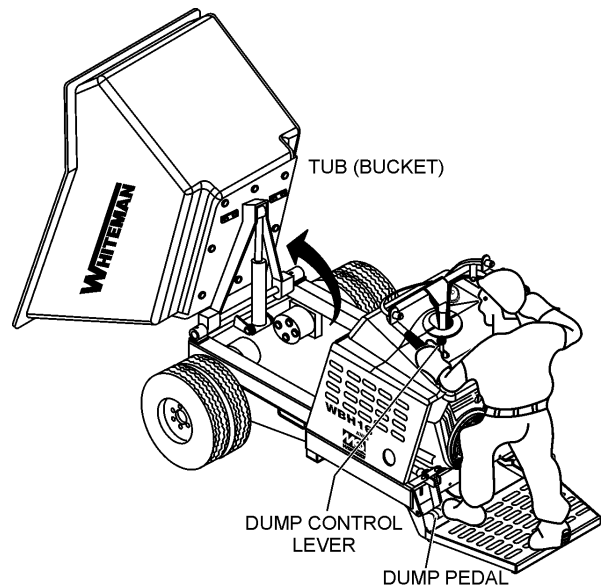

Figure 26. Tub Vertical Position
- To place the tub in the vertical position (Figure 26) press down on the dump pedal or move the dump control lever forward. The tub will move to the vertical position as long as pressure is continuously applied to the dump pedal or the dump control lever is held in the forward position.